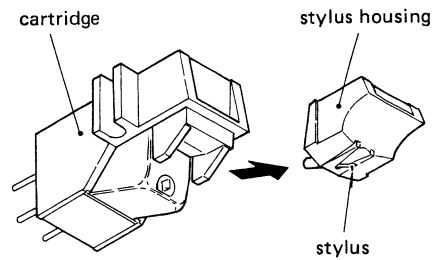

Fig. 3-3
8. Re-attach the stylus housing by firmly sliding it into the cartridge in the opposite direction to the arrow in Fig. 3-3, taking care not to touch the stylus tip.
9. Adjust the overhang referring to item 4-1, then secure the two cartridge-mounting screws. Make sure that the cartridge is not tilted off the center line of the headshell.